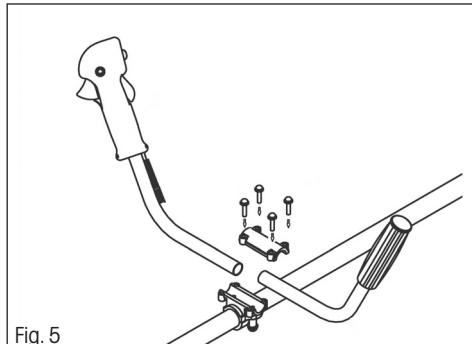

Fig. 5
- ✿ Install the handle into the mount (see fig. 5). The handle can be moved along the shaft. In this way, everybody can select the ideal comfortable working position. After selecting the ideal working position, tighten the screws. Fasten the control cable to the shaft using the supplied draw bands.